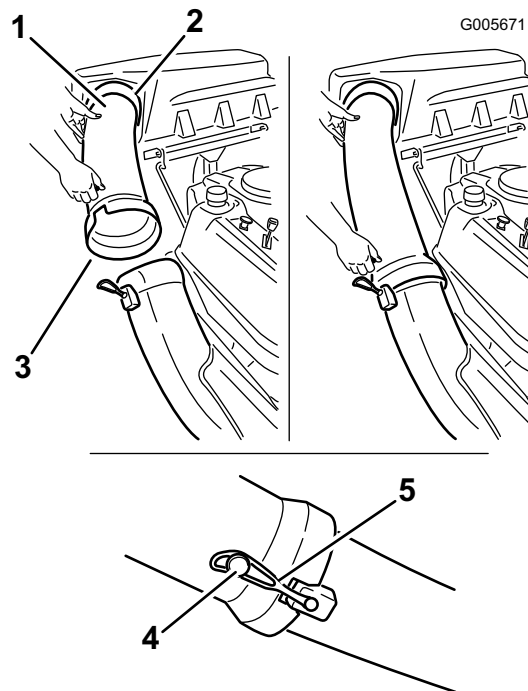

Figure 17
1. Slide the curved end of the discharge tube into the opening in the bagger top (Figure 17).
2. Slide the flared end of the discharge tube over the end of the chute. Move the rubber retaining strap on the chute snaps over the peg on the discharge tube to secure it (Figure 17).